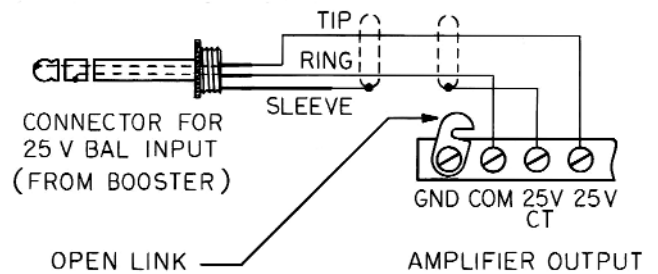

Figure 6 – Booster Amplifier Output Connection for MCP35A
- 8. 25V BAL. INPUT** - (From Booster) Stereo phone jack accepts input from a booster amplifier. Refer to Figure 6.
Model BPA60 provides increased power output. To install, connect a cable terminated in a male phone plug from the MCP35A Line Out jack to the Hi-Z input jack on the rear panel of the amplifier. Connect the 25V output from the amplifier to input jack labeled 25V BAL INPUT. Refer to Fig. 6.